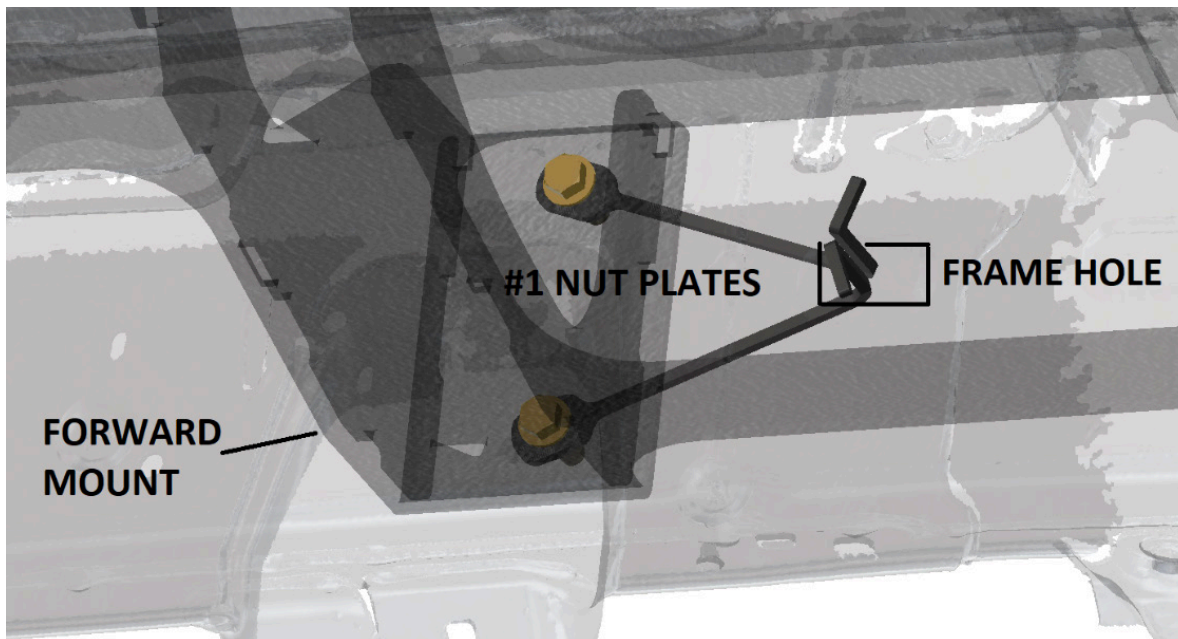

Figure 5
6. Next move to the FORWARD mount on the driver side. Use the #1 etched nut plates through the frame along with 2x 3/8" yellow zinc hex head cap screws with washers to fasten it in place. Place a dab of 242 Loctite on the end of each bolt. Figure 5.